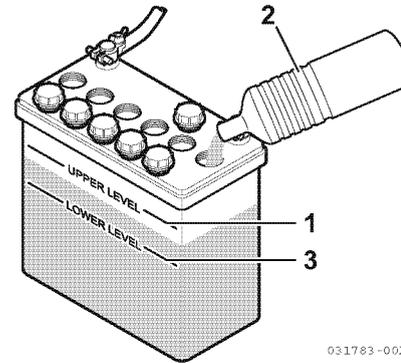

Figure 5-6
- When the amount of fluid nears the lower limit (3, Figure 5-6), fill with distilled water (2, Figure 5-6) so it is at the upper limit (1, Figure 5-6). If operation continues with insufficient battery fluid, the battery life is shortened, and the battery may overheat and explode. During the summer, check the fluid level more often than specified.